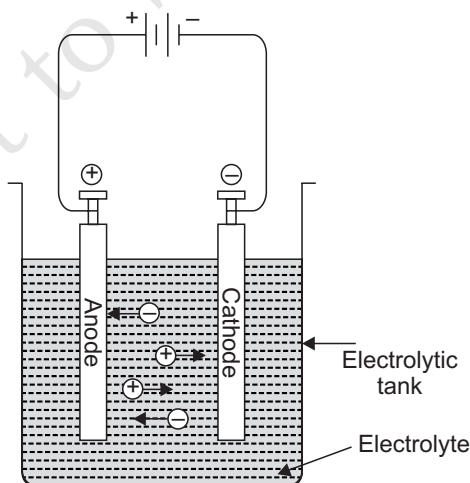

Fig. 4.7. Electrolytic cell.
- (iv) Two *metallic rods*, suspended in the electrolyte and connected to the battery through conducting wires. These rods are called *electrodes*. The electrode connected to the negative terminal of battery is called *cathode* while the other one which is connected to the positive terminal is called *anode*. The apparatus used to constitute electrolytic cell has been shown in Fig. 4.7.